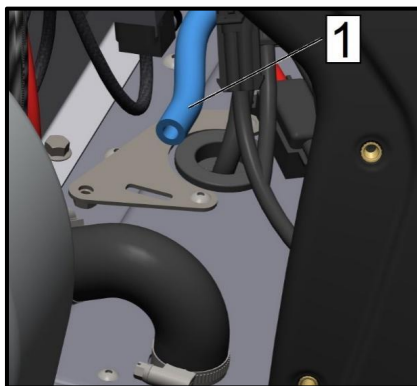

Fig. 21
15. Put the clamp on the hose (posture 1, Fig. 21). Connect the fuel hose (POS.1, Figure 21) to the new fuel filter.